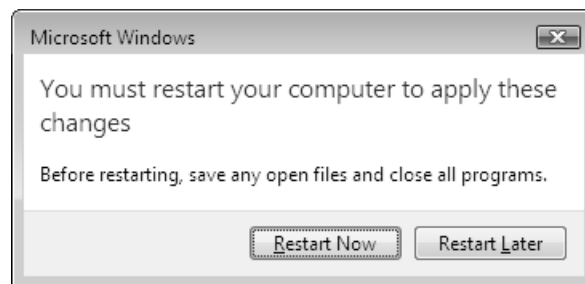

Figure 2.2.4 Restart of the host computer
2. When dialog box of Figure 2.2.4 is displayed after driver installation completion, restart of the host computer is necessary.